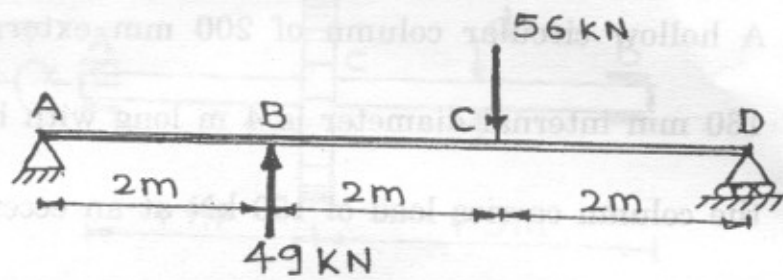

Fig. 12 (a)
12. (a) For the beam loaded and supported as shown in Fig. 12 (a), determine the deflection at B by moment area or conjugate beam method. [8]